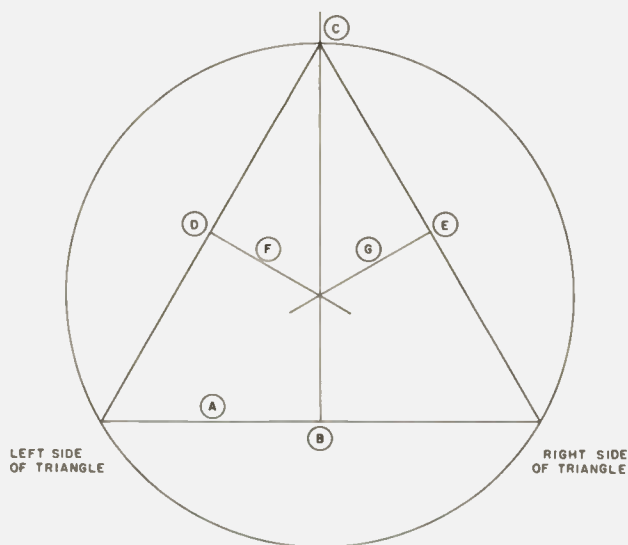

Fig. 1.
3. Construct line A 6¼ inches long, as shown in Fig. 1. Then divide the line in two, marking off the halfway point 3-1/8 inches (B) from each of the line ends.